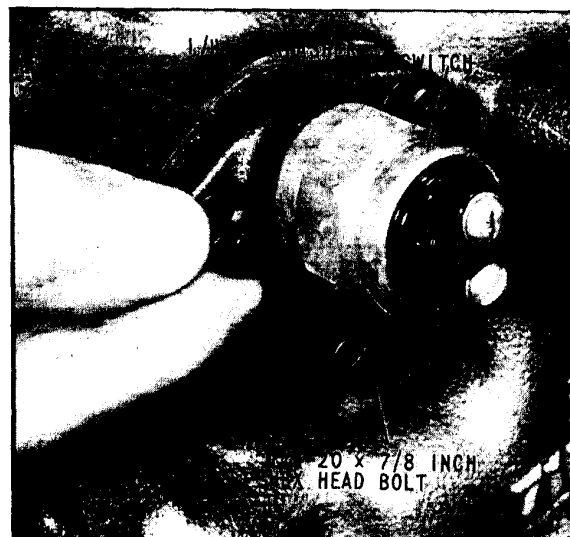

Fig. 84 Neutral Switch Correctly Assembled
3. Assemble valve cover and neutral switch with neutral switch located between two (2) top 1/4-20 bolts, as shown in (Fig. 84). Use the three (3) 1/4-20-7/8 inch long hex head bolts provided in neutral switch kit. Tighten hex head bolts to recommended torque of 8 to 11 **pounds-feet** and assemble starter solenoid wires to switch.